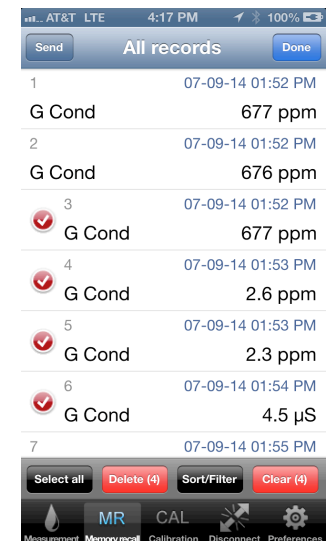

Figure 25
- The following additional buttons will appear at the bottom of the list display (see Figure 25):
- The label on the RED Clear button will update will update to show the number of records that have been selected(see Figure 25).
- The label on the RED Delete button will update will update to show the number of records that have been selected(see Figure 25).